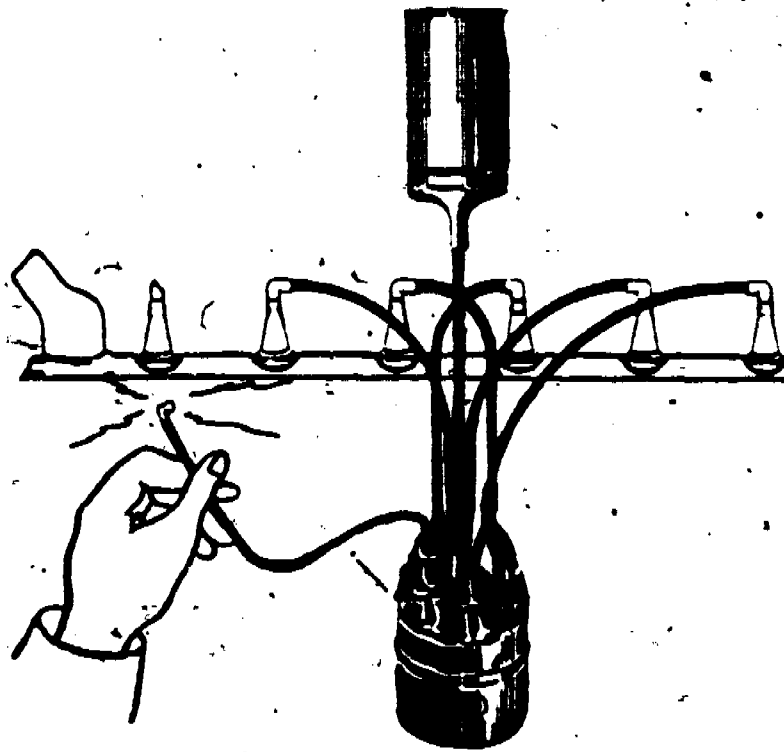

Figure 1. Checking Spark.
- d. If no spark occurs, the ignition is at fault, figure 1.